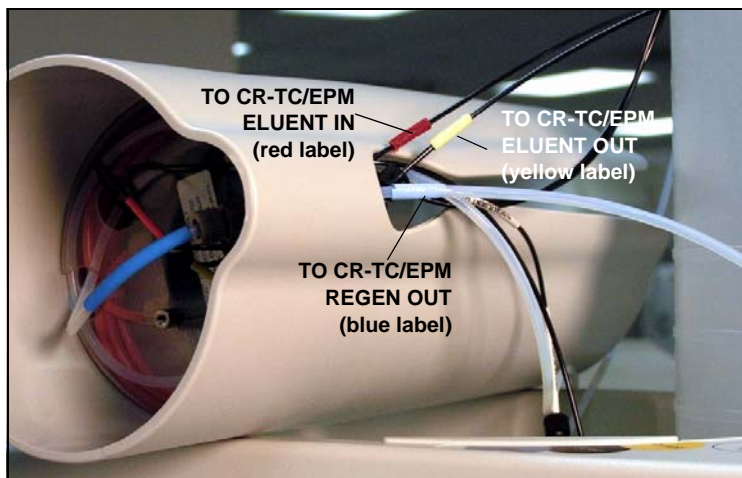

Figure 59. TO CR-TC/EPM Lines Outside of Holder
4. Thread the three extended lines (red, yellow, and blue labels) through the opening on the side of the holder (see Figure 59).